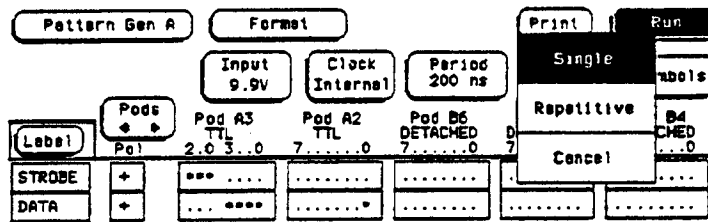

Figure 4-10. Run-Single Selection
- k. Touch Run, then drag finger to Single. See figure 4-10.